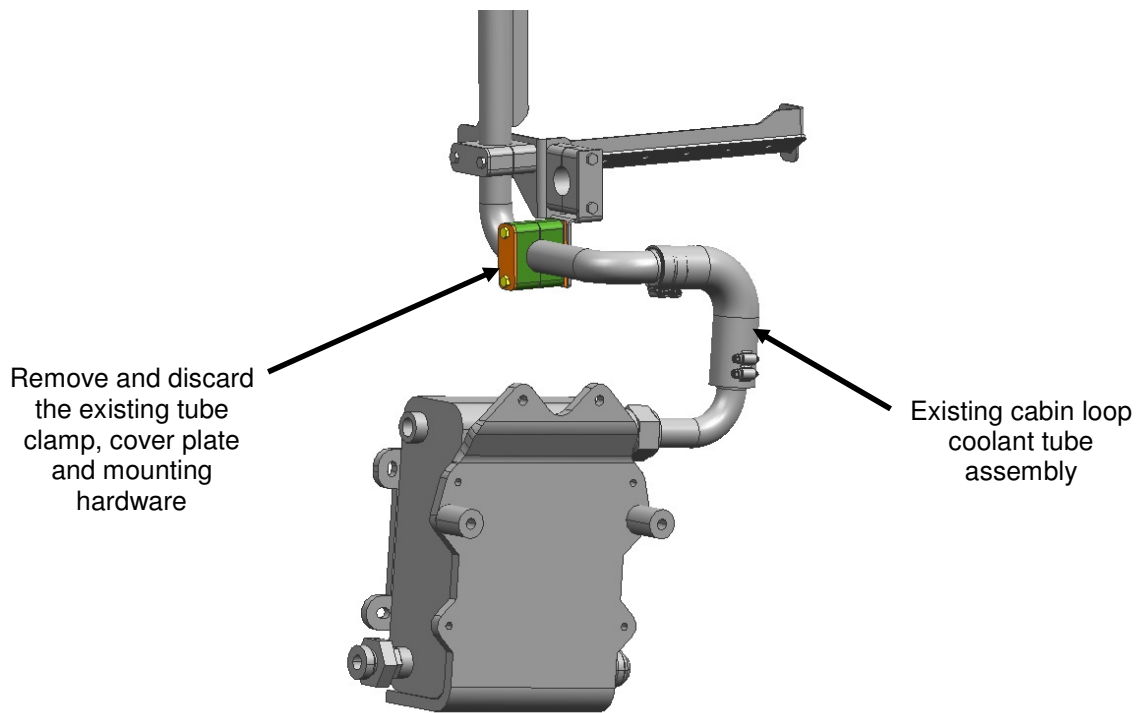

Figure 6: Coolant Tube Assembly Support Clamp Removal
20. Remove and discard the existing tube assembly support clamp, cover plate and mounting hardware at the location shown in Figure 6.